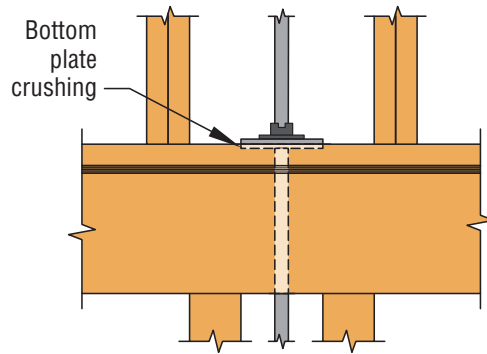

Figure 4
6. Bottom plate crushing/deformation (See Figure 4) should then be determined following the provisions of AS1720.1 or NZS3603.